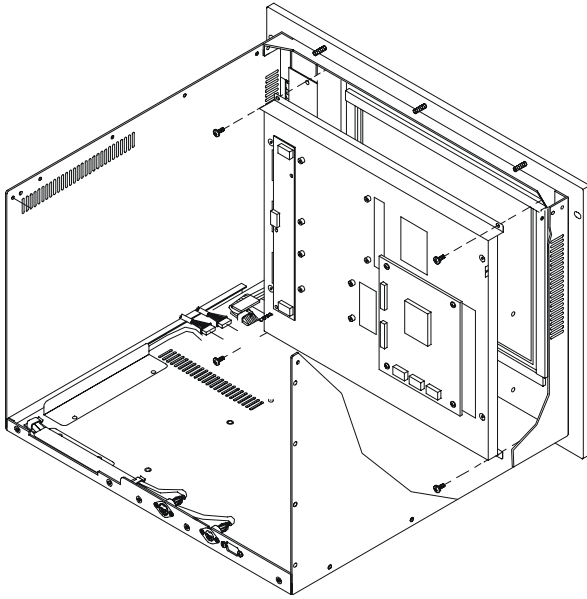

Figure 3.4: Removing LCD display module (final steps)
5. Unscrew the 4 screws which hold the LCD display module.(Refer Figs. 3-4.)